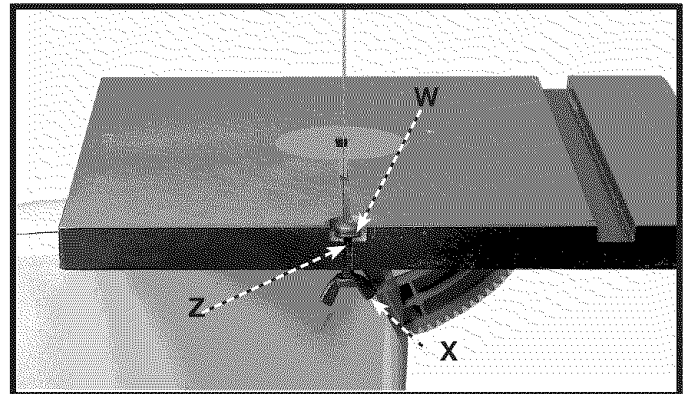

Fig. 17
- Remove the keeper screw, washer and wing nut from the table slot (see Fig. 17 detail). Be careful not to lose these parts.
- Re-assemble the screw (W) Fig. 17 that was removed in **STEP 2**, down through hole in table. Place the M6 flat washer (Z) on the M6 x 30mm screw, then thread the M6 wing nut (X) on the screw (W) and tighten securely.